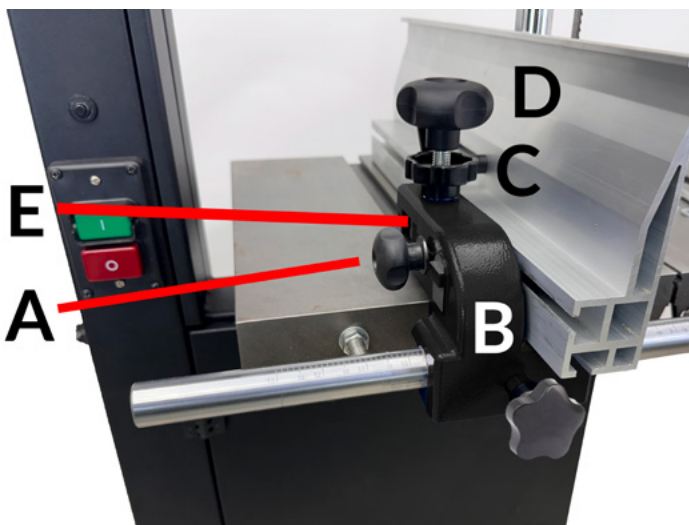

Figure 4
1. Loosen the side Handle (#7, Fig. 4, A) that secures the rip fence to the Fence Carrier (#9, B). Ensure the handle is completely loosened to allow for smooth adjustments.
2. Loosen the Locking Knob (#2, Fig. 4, C), which is situated on the fence carrier. This step is crucial for making the necessary adjustments to the fence position.